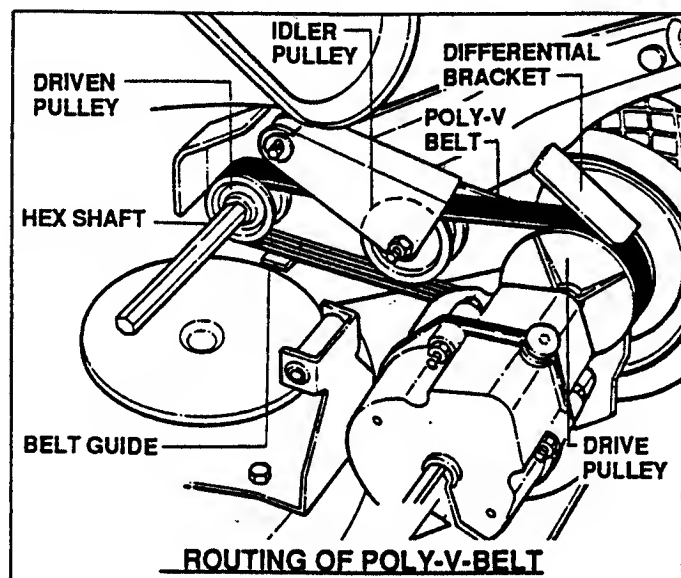

FIGURE 3.22
2. Note the routing of the old belt around the three pulleys before cutting and removing it. See Figure 3.22.
5. Twist belt sideways and pull it upward between the differential bracket and drive pulley and then down into the pulley groove. Make sure the Poly-V-Belt is above belt guide. Refer to Figure 3.22.